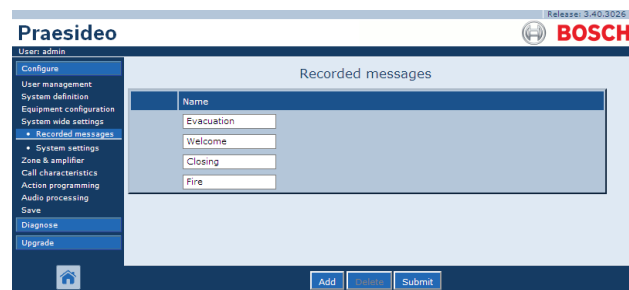

figure 44.5: Register message, step 4
- 4 Click the *OK* button to add the recorded message to the list of registered recorded messages. A screen similar to the one in figure 44.5 appears in the main frame of the web interface.